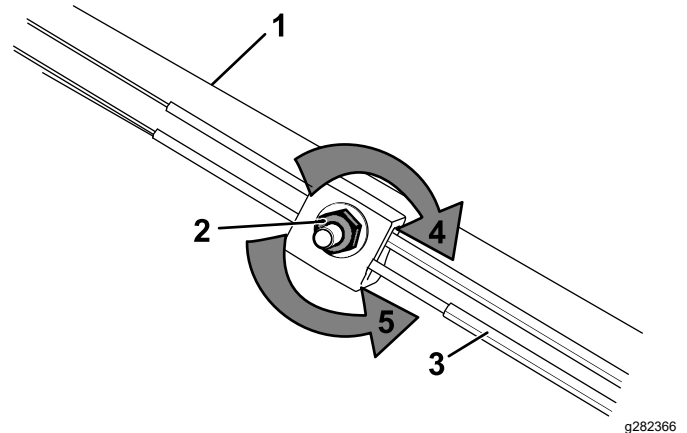

Figure 52
1. Turn the adjustment nut counterclockwise to loosen the cable adjustment (Figure 52).
2. Adjust the tension on the cable (Figure 52) by pulling it forward or pushing it back and holding that position.